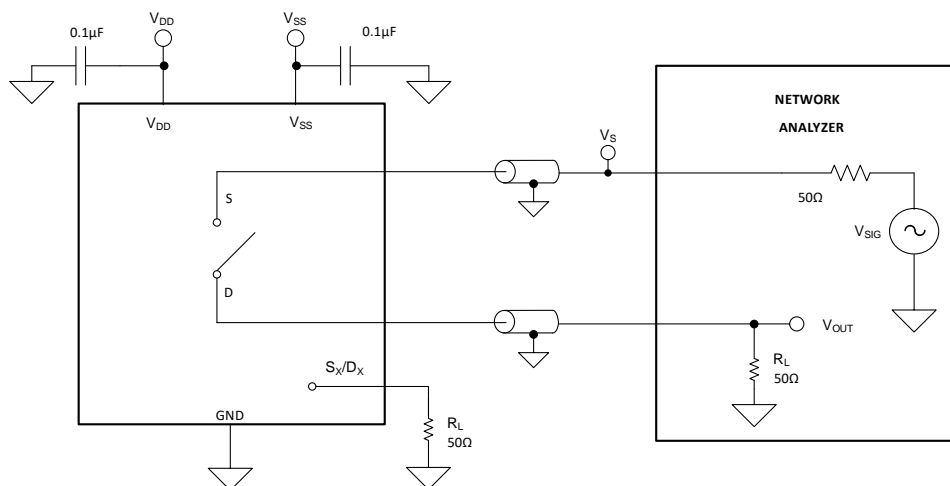

Figure 25. Off Isolation Measurement Setup
Off isolation is defined as the ratio of the signal at the drain pin (D) of the device when a signal is applied to the source pin (Sx) of an off-channel. Figure 25 shows the setup used to measure and the equation used to compute off isolation.